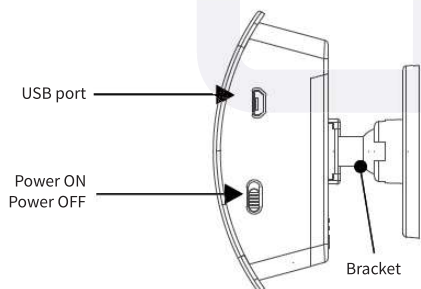

Fig. 2
- Insert batteries in the motion sensor and turn on the ON/OFF switch on the underside of the sensor see Fig. 2. D1, D2, D3 and D6 lights will flicker once. You can also use micro USB cable to power the sensor. It is not necessary to turn on the ON/OFF switch while using USB cable. The PIR sensor is powered constantly.
- Place the motion sensor in the holder (fig.2).